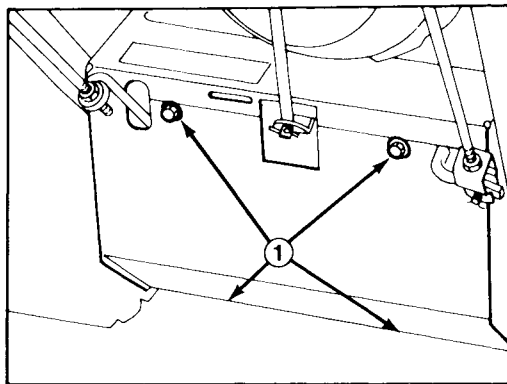

Figure 29
1. Remove four thread forming screws securing bottom cover to frame. Remove bottom cover (Fig. 29).